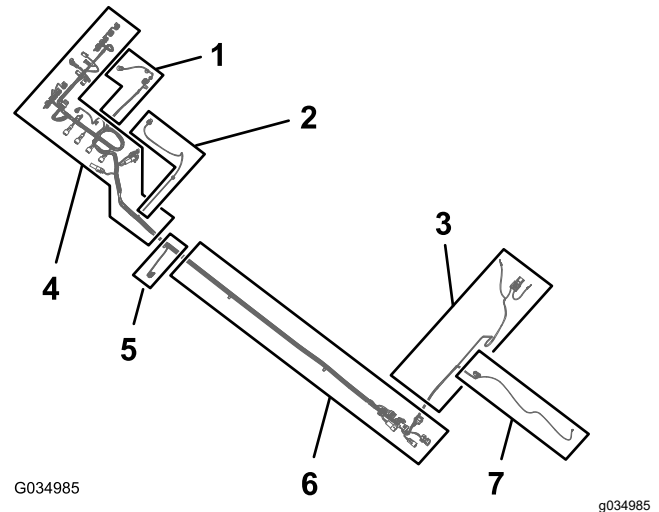

Figure 83
- Locate the 165 cm (65 inch) branch and the 203 cm (80 inch) branch of the new electrical harness (Figure 83).